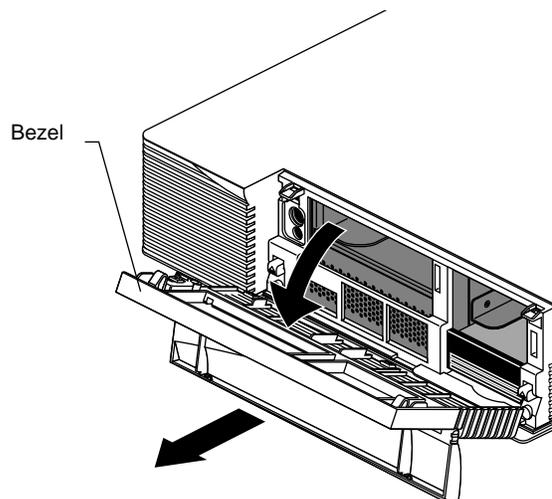

Figure 1-6 Removing the Bezel
- Pull the bezel down and away from the chassis, as shown in Figure 1-6.